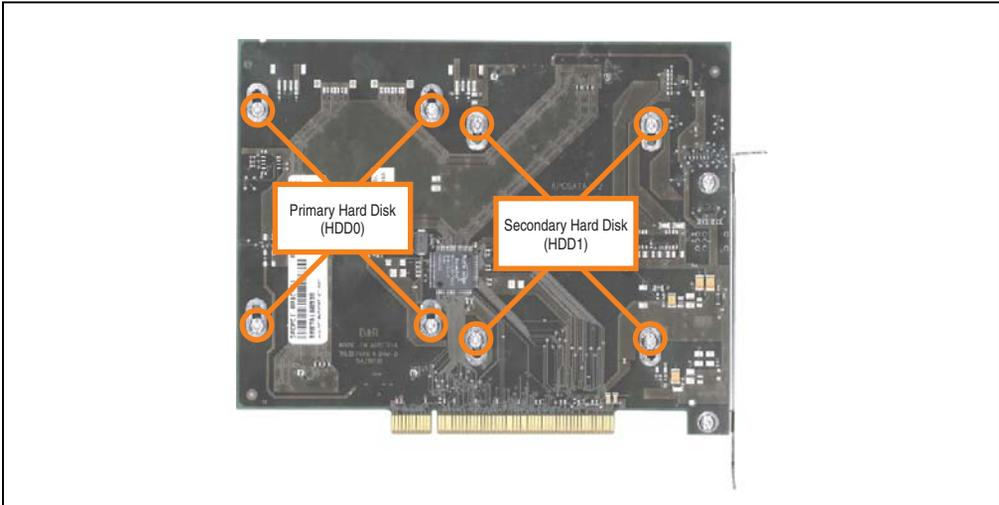

Figure 390: Screw assignment on the back side of the SATA RAID controller
- Loosen the 4 appropriate mounting screws (M3x5) - see Figure 390 "Screw assignment on the back side of the SATA RAID controller", on page 692.